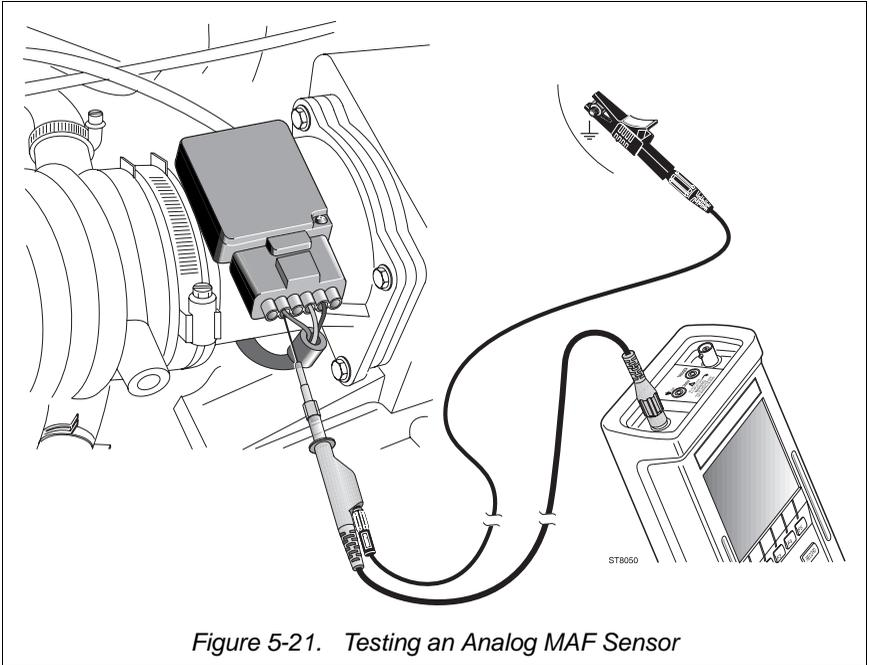

Figure 5-21. Testing an Analog MAF Sensor
③ Connect the test leads as displayed by the test tool's Connection Help and shown in Figure 5-21.
④